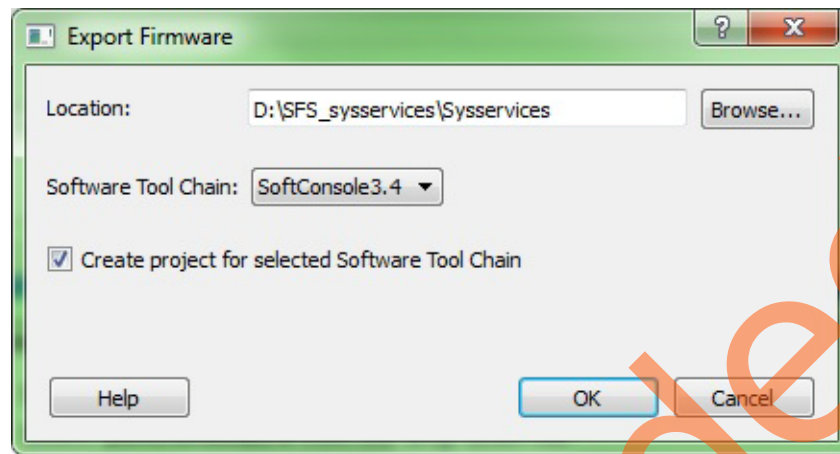

Figure 17 • Export Firmware Dialog Box
2. Click **Export Firmware**. This opens **Export Firmware** dialog box as shown in Figure 17.